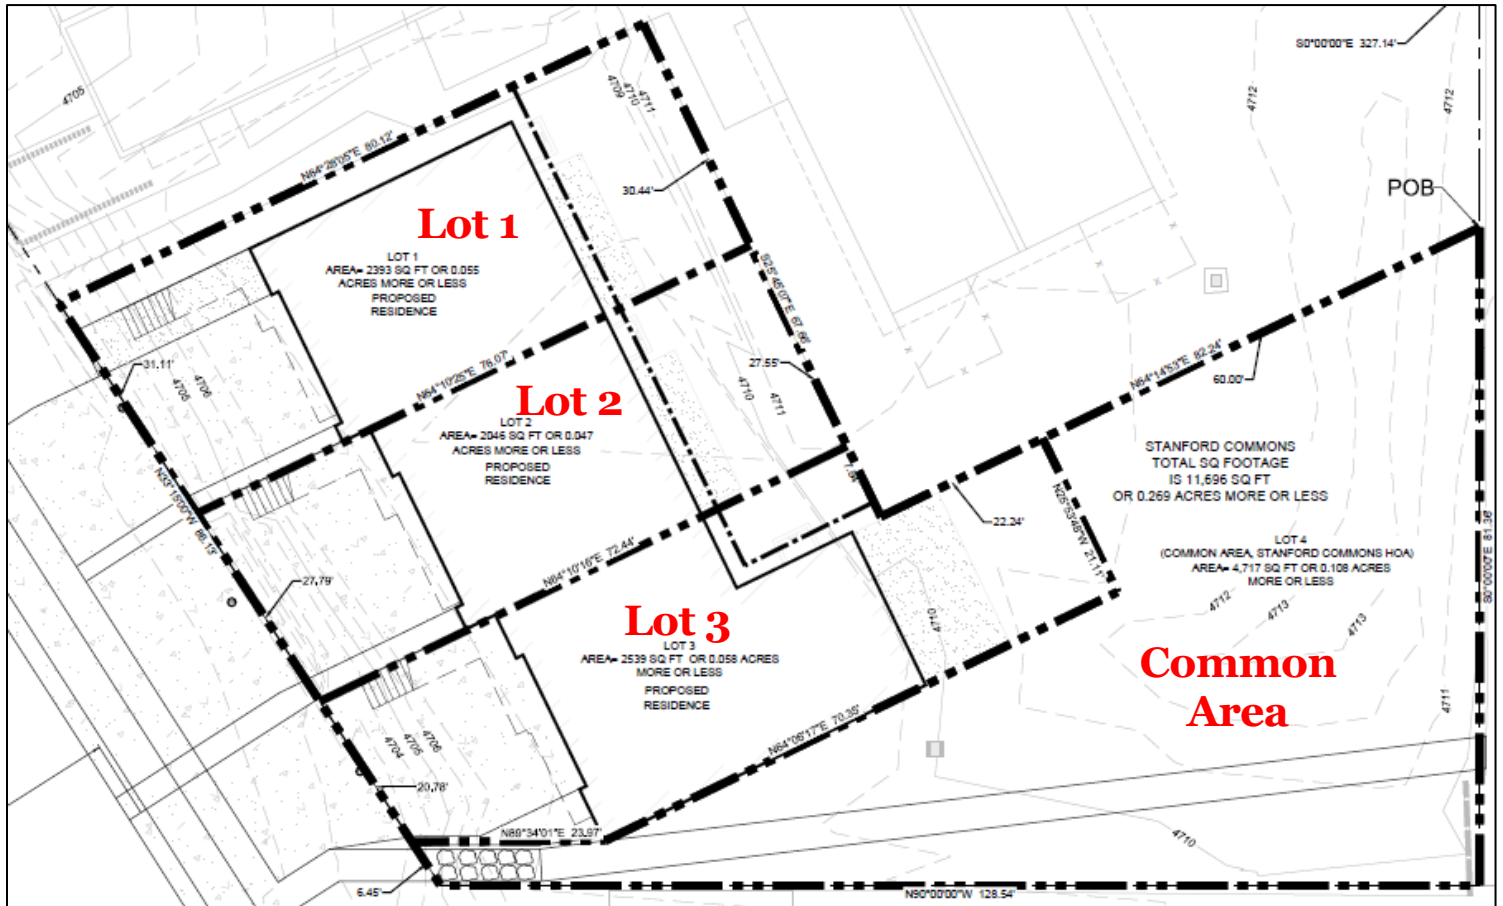

Figure 2. Proposed Preliminary Plat
The applicant is seeking to demolish the existing pool area and create four (4) new lots for the proposed construction of three (3) single-family attached dwelling units (townhomes), with the fourth (4th) lot dedicated as common area (Figure 2). The proposed development requires Planned Development approval because the proposed lots will not meet the required minimum lot area of 3,000 square feet; however, the overall development does meet the minimum area required for three (3) dwelling units in the RMF-30 zone. In addition, the proposed townhomes will not meet the required front yard setback of 20 feet and have grade changes greater than four feet (4') within the required yard. The applicant has not requested relief from any other zoning requirements; thus, all other project elements would need to comply with standard requirements of the zoning ordinance and RMF-30 zoning district. The Planned Development process includes standards related to whether any modifications will result in a better final product, whether the proposal aligns any one of a variety of City policies and goals, and whether the development is compatible with the area or the City's master plan development goals for the area. The full list of standards is located in Attachment F.